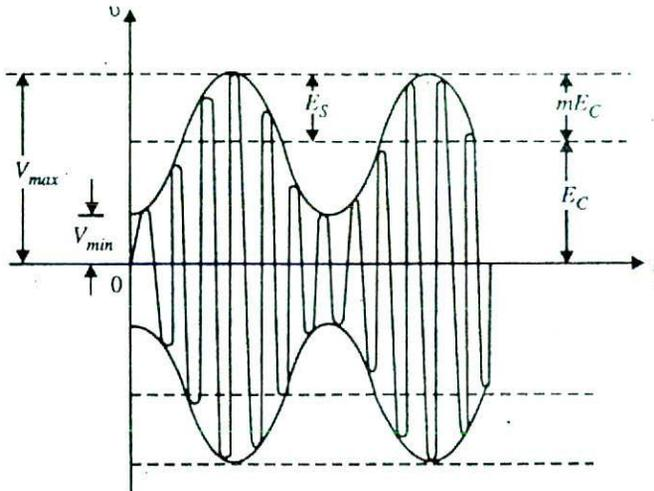

Fig. 18.4
**Solution.** Fig. 18.4 shows the waveform of amplitude modulated wave. Let the amplitude of the normal carrier wave be  $E_C$ . Then, it is clear from Fig. 18.4 that :
If  $E_S$  is the signal amplitude, then it is clear from Fig. 18.4 that :